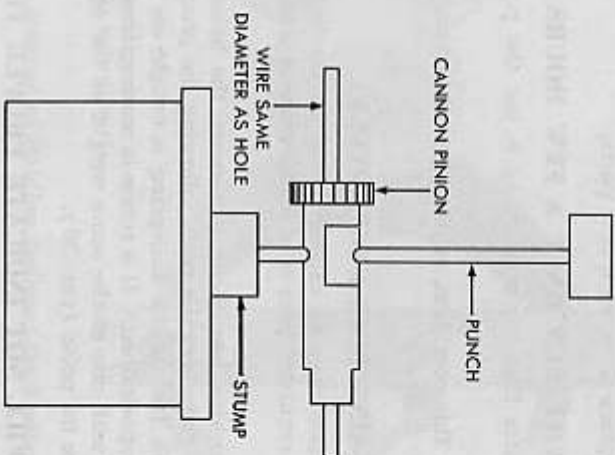

Figure 29 — Tightening Cannon Pinion With Staking Tool
b. If the hands do not fit tightly on their arbors or pipes, adjust or replace them. If the cannon pinion is too loose, tighten or replace it (fig. 29).